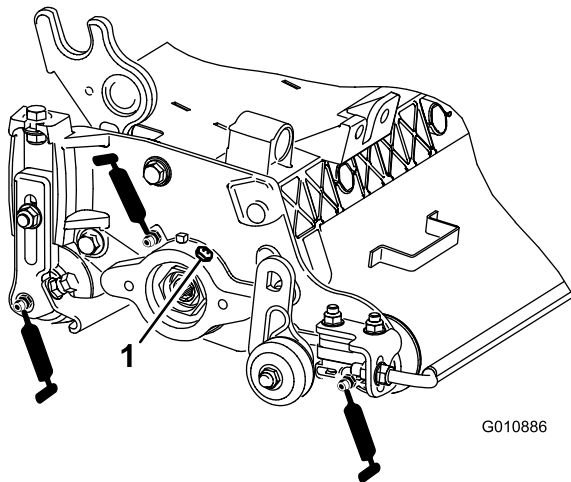

Figure 15
2. Apply grease until clean grease is seen coming out of the roller seals and the bearing relief valve (Figure 15).